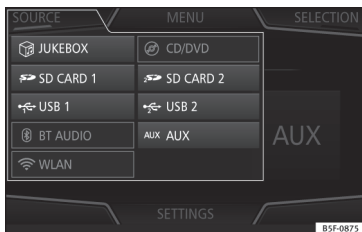

Fig. 215 MEDIA mode: change media source.
- **OR:** From the *Media* main menu, press the **SOURCE** function button **»»» Fig. 215** and select the desired media source.